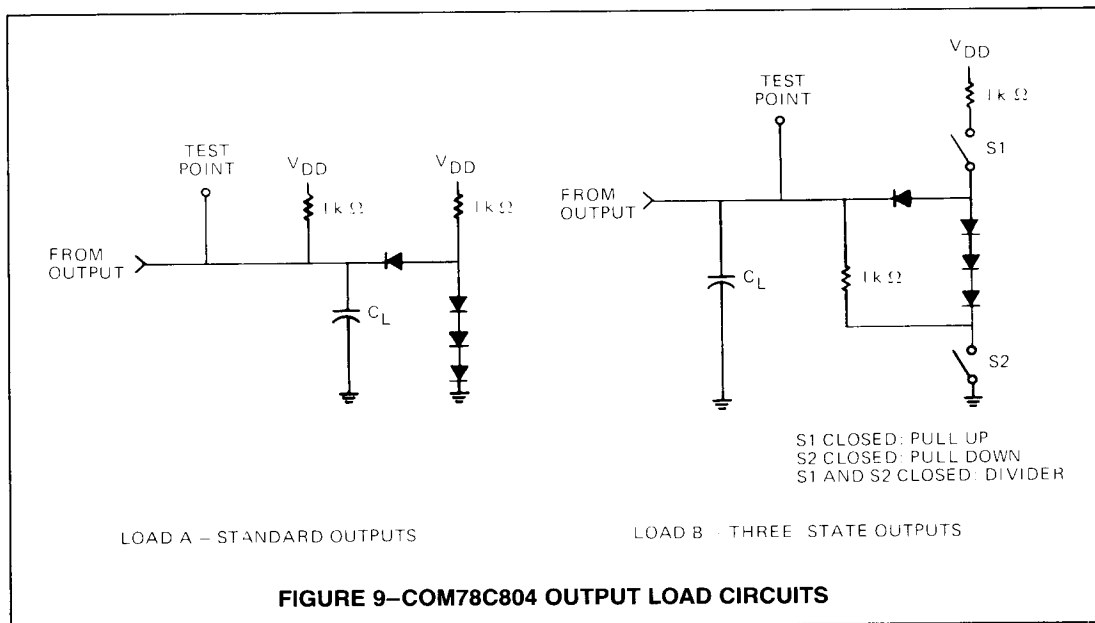

FIGURE 9—COM78C804 OUTPUT LOAD CIRCUITS
¹Refer to Figure 9 for the load circuits used with these measurements.
³Total rise time depends on internal delay plus the pullup delay introduced by the external resistor being used. The t_{ID} parameter can be calculated by the following: $t_{ID} = 500 + RC_L$ where R = value of the resistor that connects to capacitor C_L in load A, Figure 9.
⁴Total rise time depends on internal delay plus the pullup delay introduced by the external resistor being used. The t_{RDH} parameter can be calculated by the following: $t_{RDH} = 75 + RC_L$ where R = value of the resistor that connects to capacitor C_L in load A, Figure 9.
3. REFER TO FIGURE 9: A = S1 CLOSED, B = S2 CLOSED, C = S1 AND S2 CLOSED.